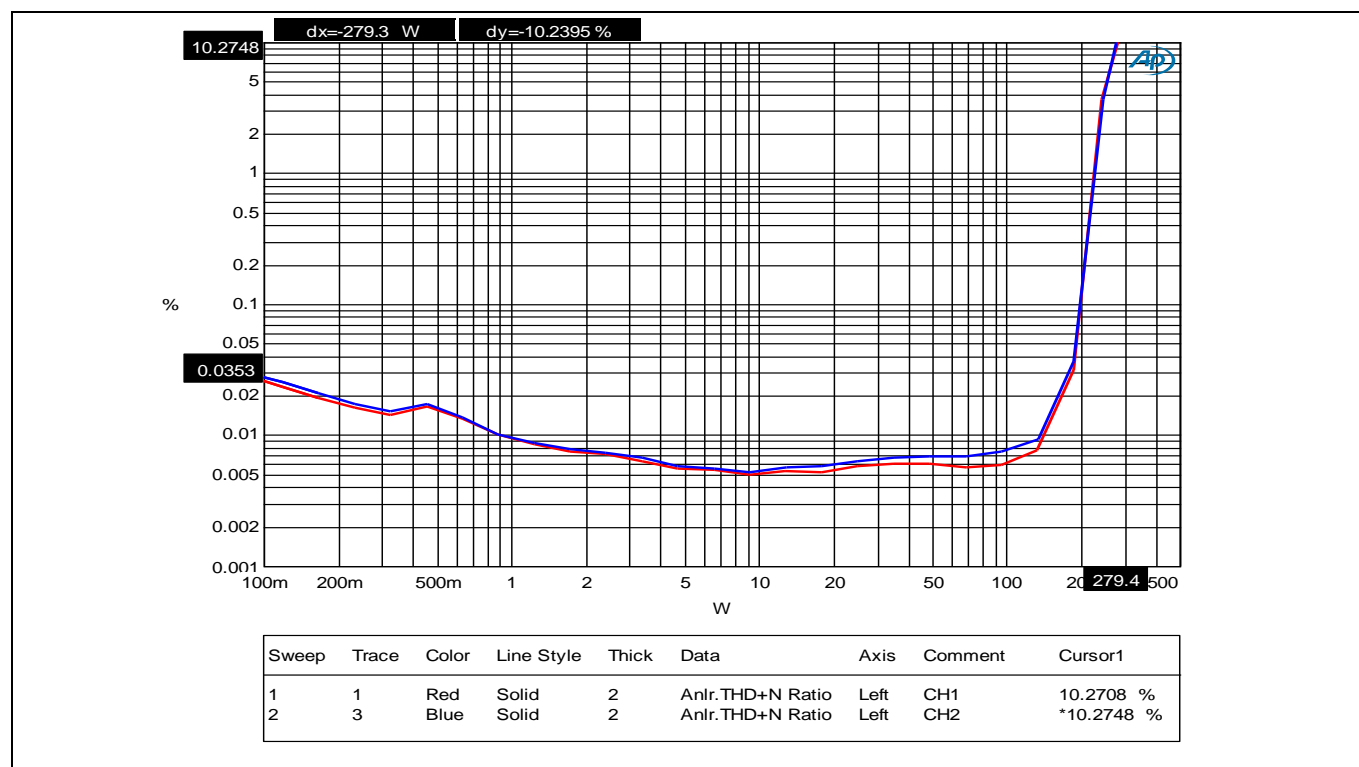

Figure 5 Power vs. THD+N 4Ω load
9. Run the AP test as shown in Figures 5 to 13, below.